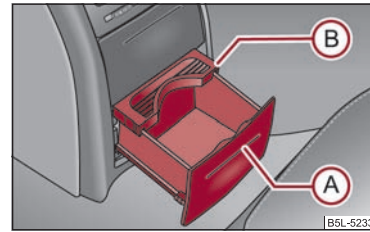

Fig. 80 Centre console at rear: Cup holder
- Press on the panel in the area **A** ⇒ fig. 80 - the cup holder comes out.